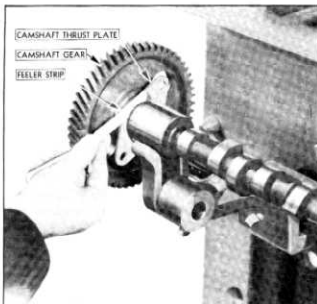

Fig. 55—Checking Camshaft End Play
- If the inspection indicated that the camshaft, gear and thrust plate were in good condition, the camshaft end play should be checked (fig. 55). If this clearance is over .003" the gear should be pressed onto the shaft until the thrust plate will turn free, but does not have over .003" clearance.